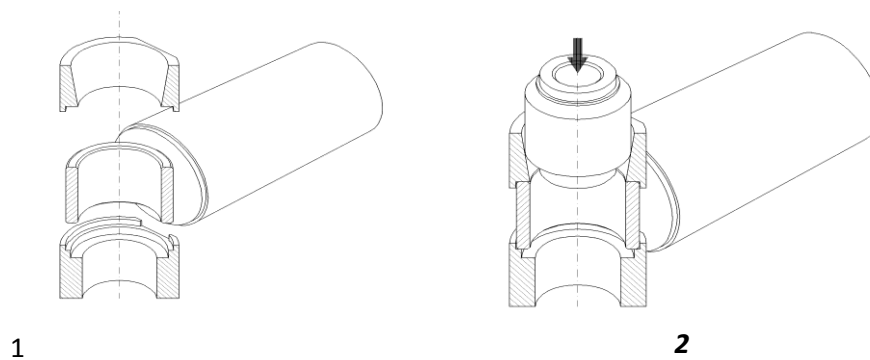

Figure 5-7 Replacement of vulcanized rubber blocks
2. Place the damper eye on a suitable tool (Figure 5-7/1).
4. Place the guiding tool on the eye (Figure 5-7/1)
5. Place the rubber bloc into the guiding tool (Figure 5-7/2)